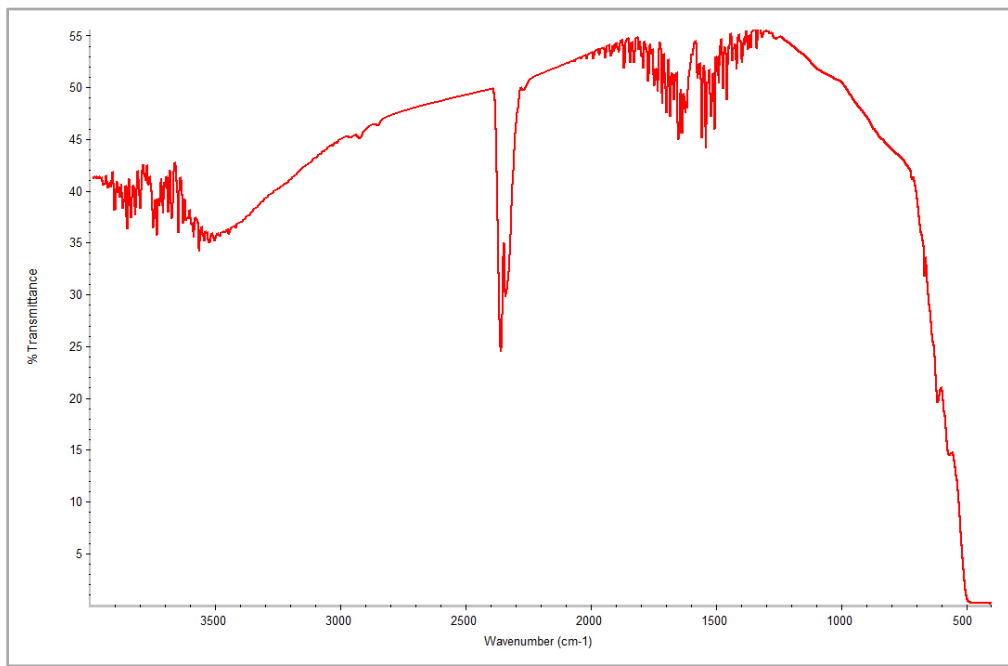

Figure 4. Throughput of VeeMAX III at set angle of 45° with 45° ZnSe crystal
6. Reinstall the accessory with the ATR crystal and collect a sample spectrum. The throughput spectrum will appear similar to the data shown in Figure 4.